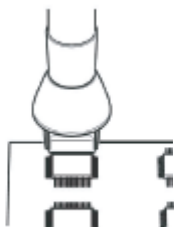

Fig. 7
3. Heat the lead frame evenly (Fig. 7)